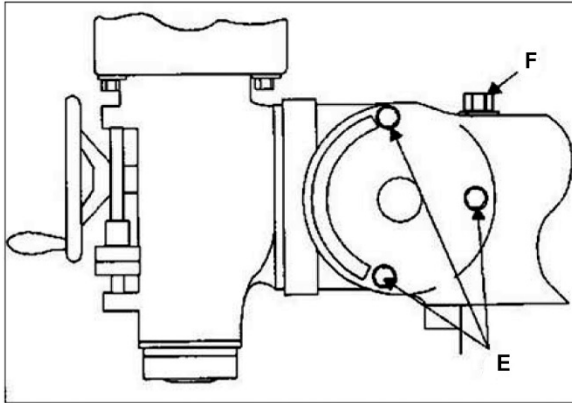

Figure 11: Mill head movement
- a. Loosen the three ram adapter clamp bolts (E, Figure 11). There is no need to loosen the bolts more than one-half (1/2) turn to allow tilting.
- c. Turn ram adapter worm nut (F, Figure 11) to tilt head forward and backward. Use scale on ram adapter to locate desired angle.
- g. Read dial indicator. The indicator should read zero. If not, loosen adaptor bolts (E, Figure 11) and reposition mill head.
- i. When indicator reads zero, tighten ram adapter clamp bolts (E, Figure 11).